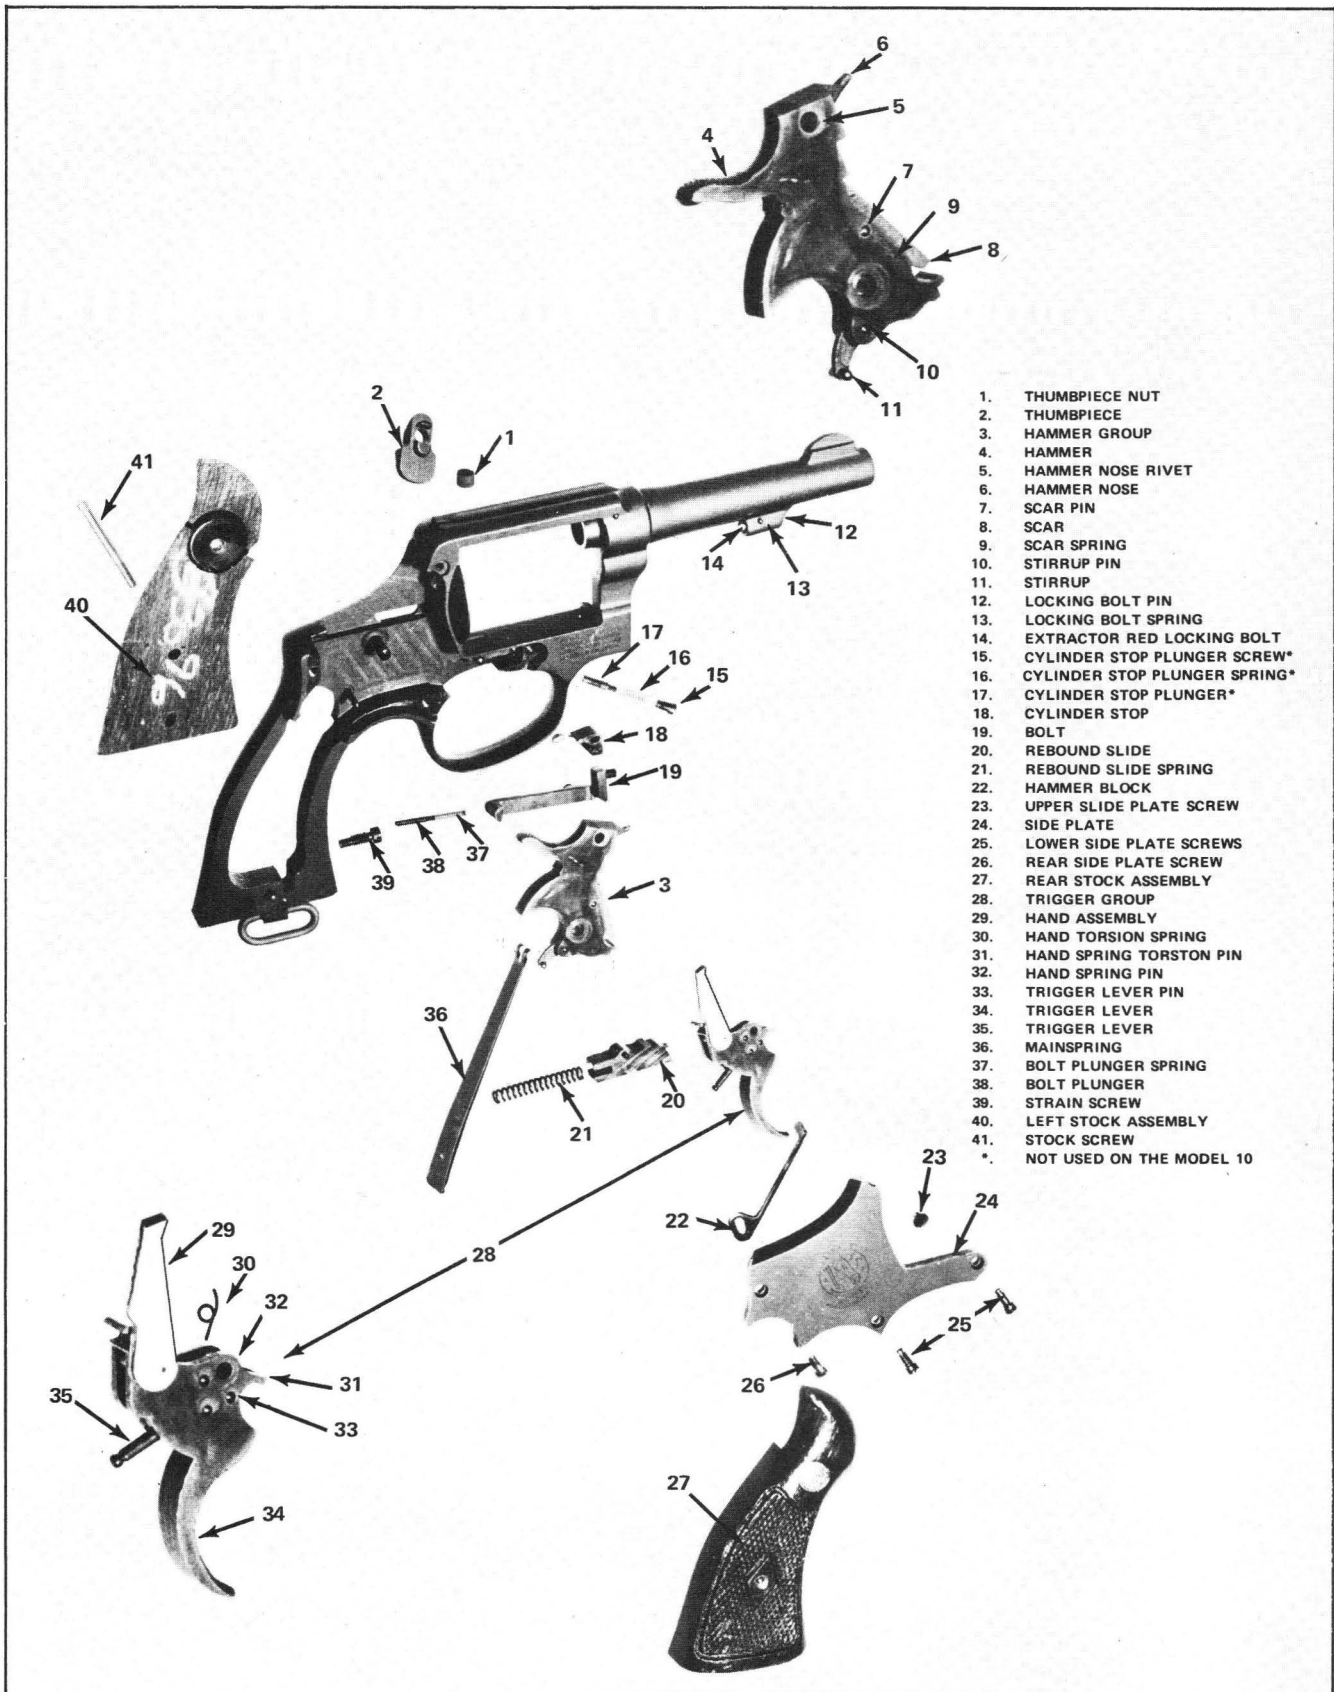
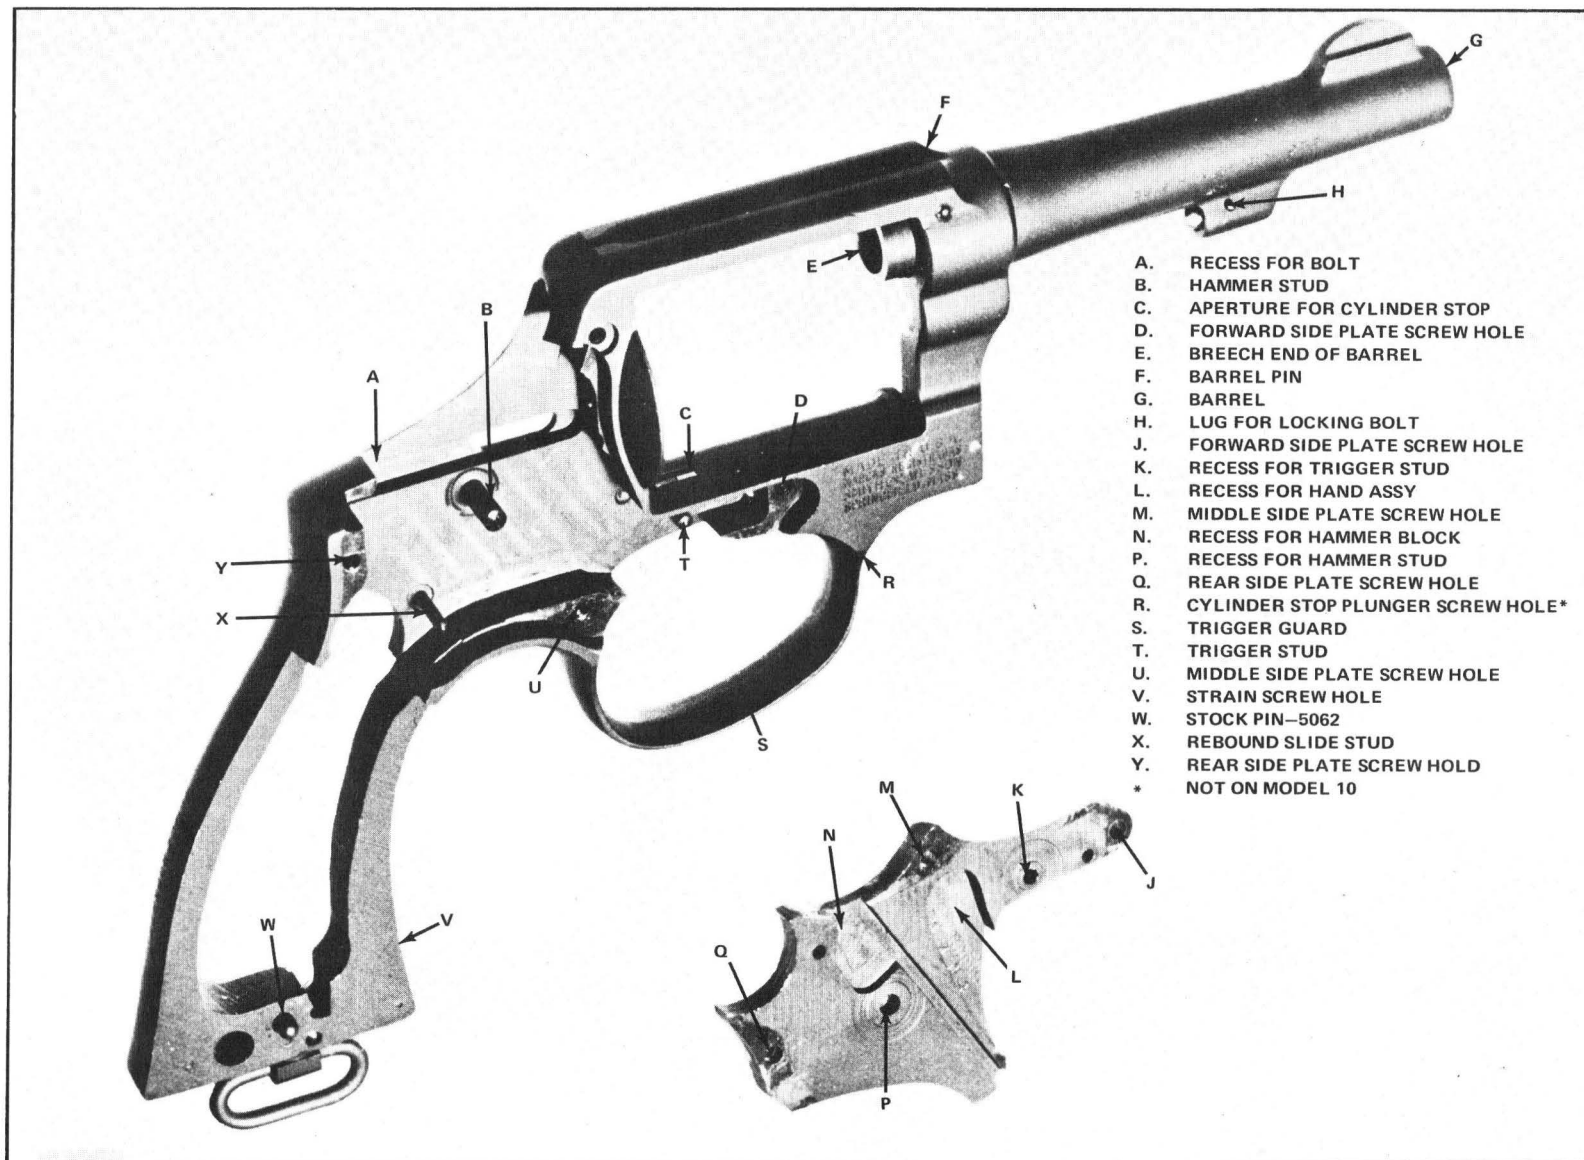

Figure 4-2. Exploded View of Revolver Components
Figure 4-3. Frame, Barrel, and Side Plate Inspection Points and Areas
<p>f. Inspect hammer group for breakage, corrosion, and wear. Examine for broken, worn, or tight hammer nose and rivet; broken worn or loose sear and stirrup and retaining pins, or defective sear spring. Replace as required.</p>	<p>Figure 4-2</p>
Except as otherwise indicated, the numbers in parentheses refer to the parts called out in figure 4-2, and the letters in parentheses refer to the parts called out in figure 4-3.
The letters enclosed by parentheses refer to the parts called out in figure 4-3.
To install the barrel (G, figure 4-3), use a special barrel vise and a special frame wrench. Screw frame onto the barrel, being careful not to twist or distort the frame. After the barrel is fully seated, drive the barrel securing pin (F, figure 4-3) into the recess provided. Check the barrel to ensure that it is fully seated and that the front sight is alined with the rear sight.
Except where otherwise noted, the figures in parentheses refer to callouts in figure 4-2.
c. Assemble the hand assembly (29) to the trigger lever (34) as follows:
(1) Install hand spring torsion pin (31) and hand torsion spring (30) in the trigger lever (34). Using a suitable small screwdriver, exert upward pressure on the hand spring and install hand assembly so that its stud engages with the spring.
(2) Insert trigger lever (35) into the trigger and drive the trigger lever pin (33) into its recess to secure the trigger lever.
d. Install the trigger group (28) on its mounting study (T, figure 4-3). Hold the upper end of the hand assembly (29) to the rear until it clears the frame.
- e. Install bolt plunger (38) and the bolt plunger spring (37) into the recess in rear of the bolt (19).
- f. Install the bolt in its recess (A, figure 4-3) on the frame by pressing the bolt plunger into the recess on the bolt.
- g. Position the thumbpiece (2) and secure it in position with the thumbpiece nut (1).
- h. Assemble the hammer group (3) by installing the stirrup (11) and securing the stirrup to the hammer with the stirrup pin (10). Install the sear spring (9) and sear (8) in the hammer and secure these components with the sear pin (7).
- i. Install hammer group onto the hammer stud (B, figure 4-3).